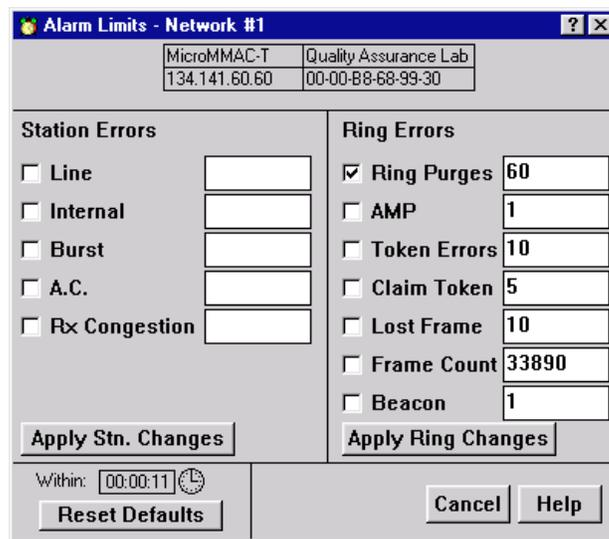

Figure 4-1. The Alarm Limits Window
When you access the Alarm Limits window (Figure 4-1) from the Network menu, you can configure and set alarms to be notified of ring errors and events in NetSight Element Manager's Alarm Log facility.
2. In the Network pull-down menu, click on the **Network 1** entry, then drag right and down to select **Alarm Limits...**. The Alarm Limits window (Figure 4-1) will appear.